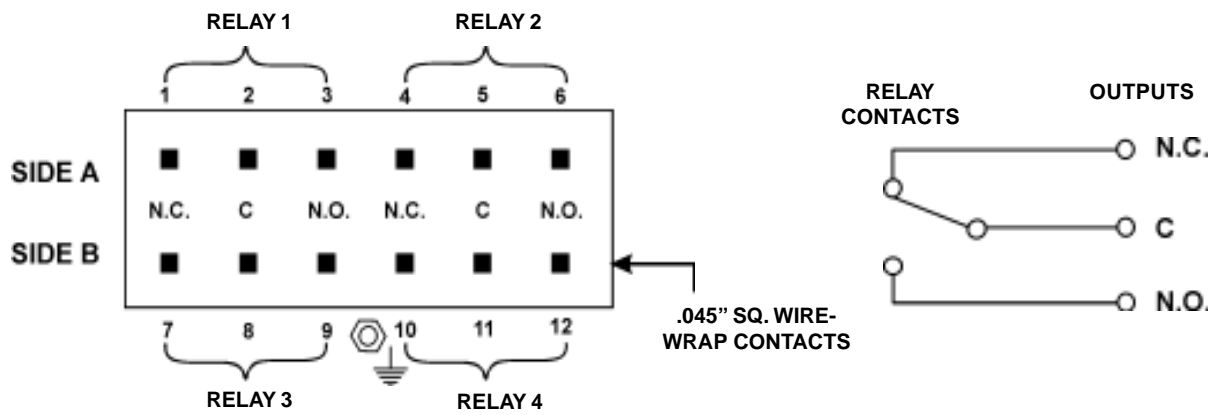

Figure 4. Form C Relay Contact Outputs on Back Panel
- 8.5 Form C Relay Contact Outputs.** The center of the back panel has connections to the Form C relay contact outputs for connection to external audible or visual alarm circuits. See Figure 4. The terminals are .045-inch square wire-wrap terminals. The upper row of terminals is for the two Form C relay contacts of side A and the lower row of terminals is for the two Form C relay contacts of side B. Row A terminals 1, 2 and 3 are the normally closed (N.C.) common (C) and normally open (N.O.) contacts, respectively, of the first relay; row A terminals 4, 5 and 6 are the N.C., C and N.O. contacts, respectively, of the second relay. The same designations apply for row B, relays three and four. See the following table.